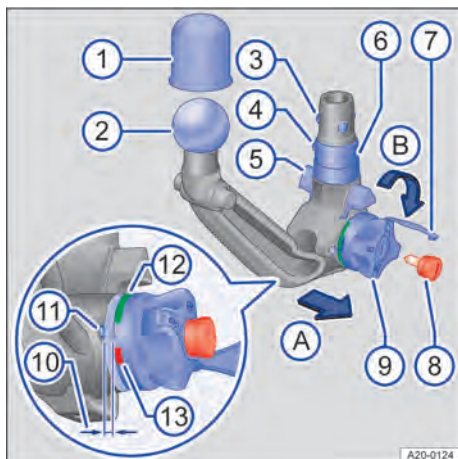

Fig. 142 Overview: removable ball coupling.
4. Remove the lock cap → Fig. 142 ⑦ from the lock on the handwheel.
5. Insert the key → Fig. 142 ⑧ into the lock and turn it anti-clockwise.
6. Hold the ball coupling → Fig. 142 ② tightly in one hand → ▲.
7. Use your other hand to pull out the handwheel → Fig. 142 ⑨ in the direction of arrow A and hold it in this position.
8. Turn the handwheel → Fig. 142 ⑨ as far as it will go in the direction of the arrow B.
9. Hold the handwheel → Fig. 142 ⑨ in this position and guide the ball coupling ② downwards out of the mount. The ball coupling engages and is pre-tensioned.
2. Use your other hand to turn the handwheel → Fig. 142 ⑨ as far as it will go in the direction of the arrow B.
3. Press in the ball → Fig. 142 ④.
4. Turn the handwheel back → Fig. 142 ⑨ anti-clockwise.
5. Release the ball → Fig. 142 ④. The handwheel no longer protrudes from the ball coupling. The ball coupling is now slackened.
6. Turn the key → Fig. 142 ⑧ clockwise and remove. Store the key in the storage box.
7. Close the lock cap → Fig. 142 ⑦.